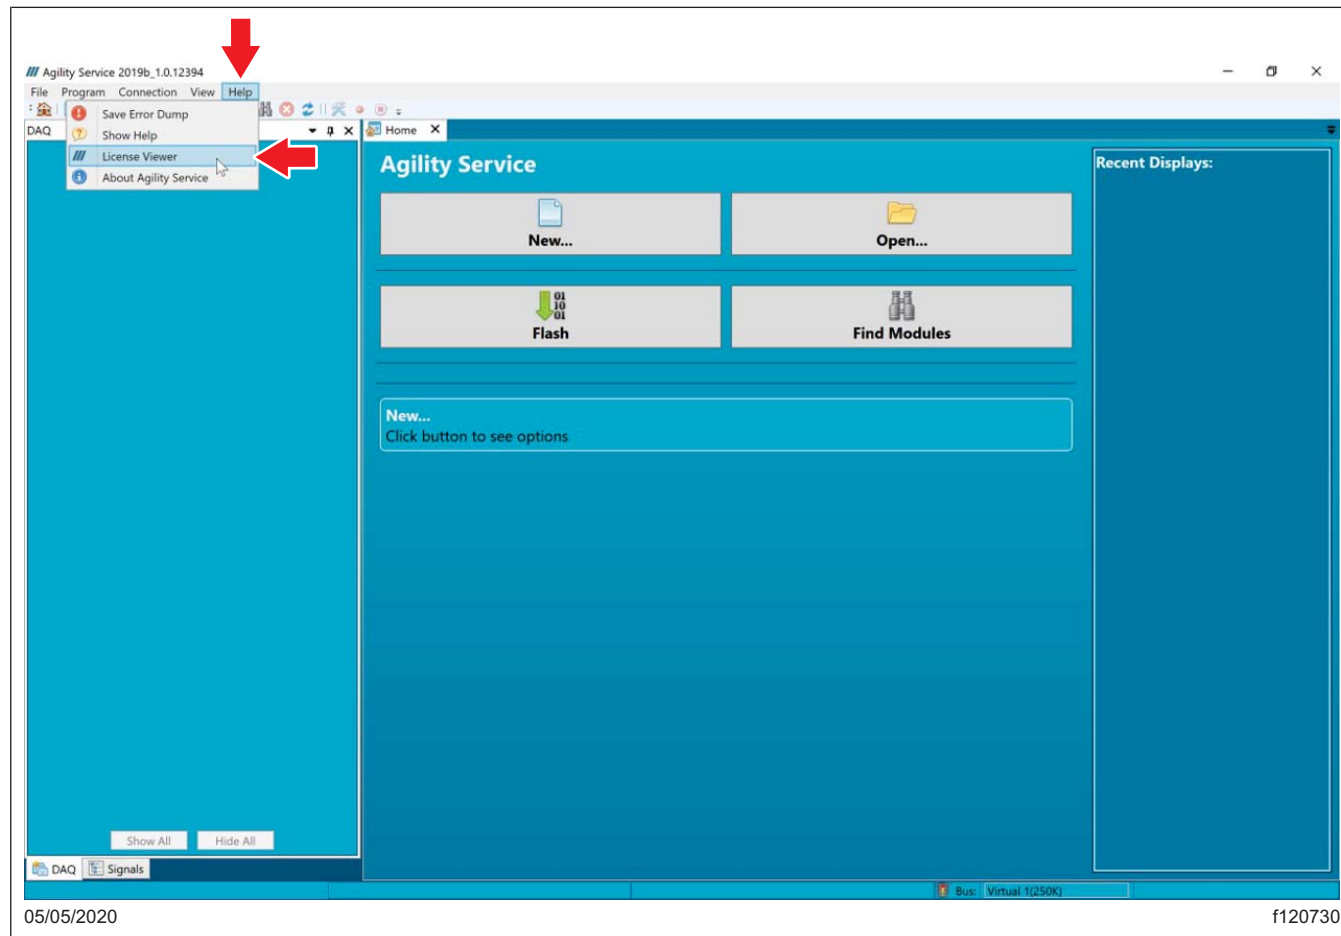

Fig. 21, Help Window
2. When the Agility tool opens, select 'Help,' and then select 'License Viewer.' See Fig. 21.